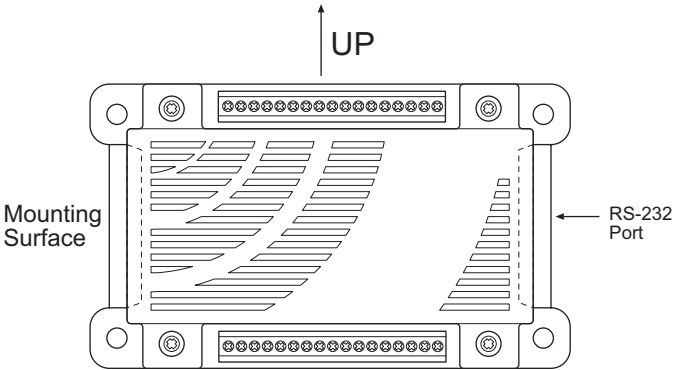

Figure F-2. Preferred PK2500 Enclosure Mounting
The preferred orientations of the PK2500 enclosure are shown in Figures F-2 to F-5 in order of recommended (1) to least desirable (5).